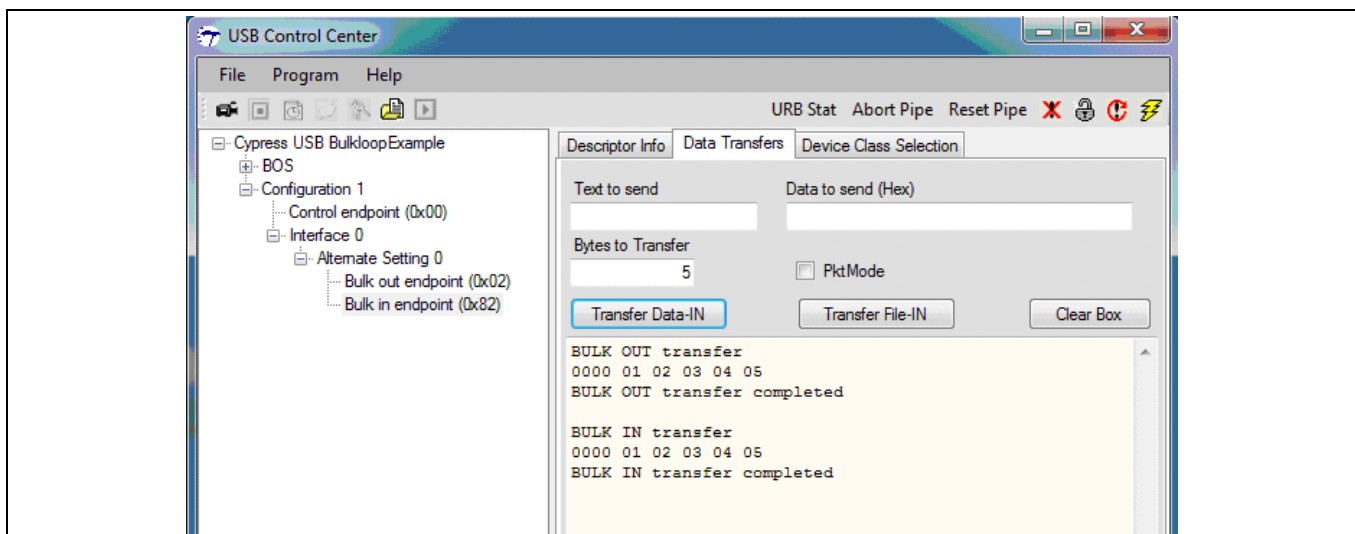

Figure 25 BULK IN Transfer
- The BULK Loop program sends back any data it receives over the OUT endpoint using the correspondingly-numbered IN endpoint. To perform the BULK IN transfer, select the **BULK in endpoint (0x82)** in the left pane. Enter the number of bytes to transfer in the **Bytes to Transfer** field. Click on **Transfer Data-IN**. Figure 25 shows the same 5 bytes being received back on IN endpoint (0x82).